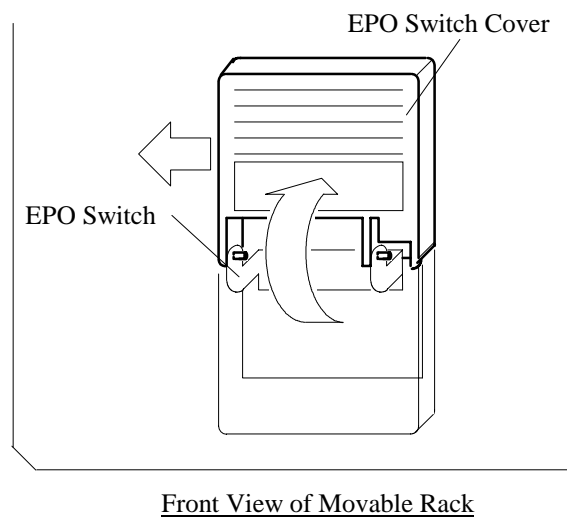

Fig. T2-3 Removal of EPO Switch Cover
- d. Attach the EPO switch cover. Refer to Fig. T2-3.